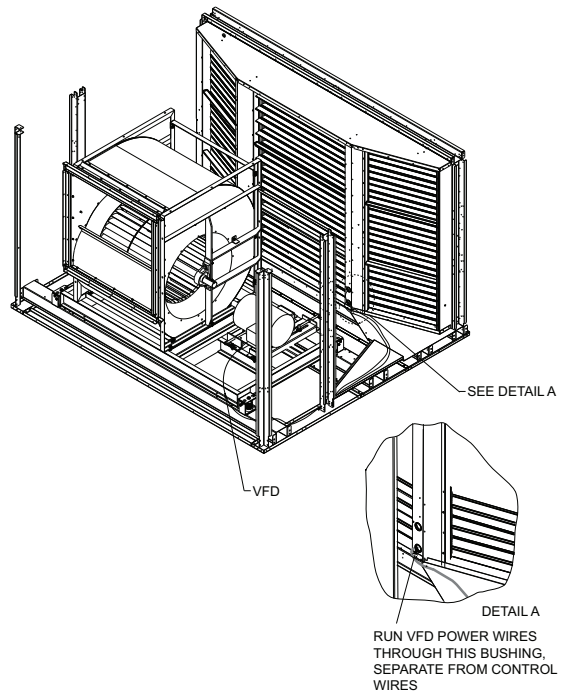
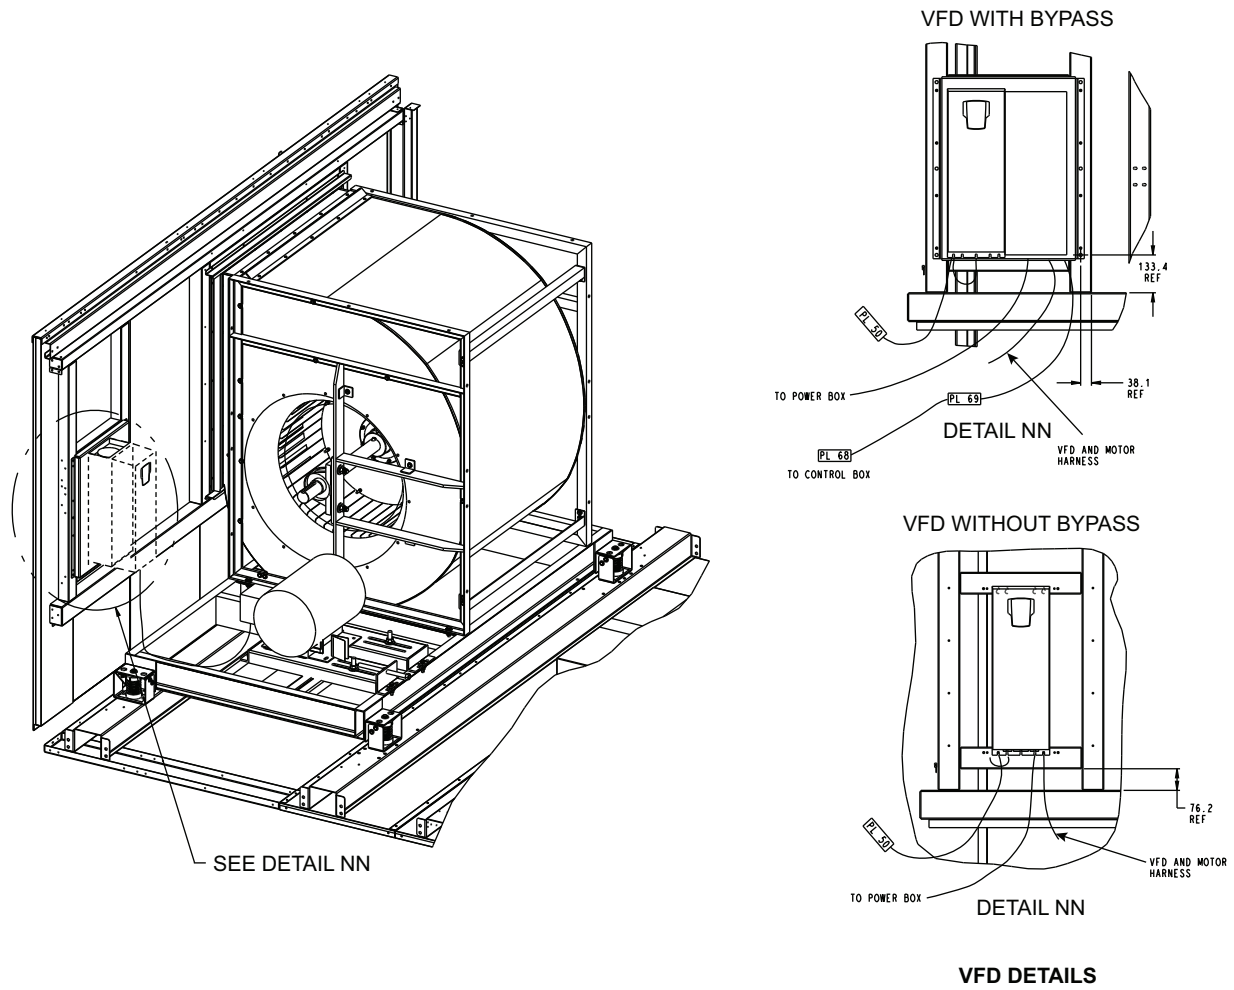

Fig. 46 — Wire Routing
Fig. 47 — Return Section Component Locations
15. On units equipped with return air fan or power exhaust fan option, locate black, yellow, and blue power wires located at the split in main section. Run the wires through the grommet below the return air filters and through the grommet at the economizer damper. See Fig. 46. Run wires through wire trays, separate from control wires, to the return fan/power exhaust fan VFD on back wall of return section. Connect wires to VFD power terminal connections: Black to UL1, Yellow to V1, and Blue to W1. On units equipped with VFD bypass option connect the wires to the power distribution in the VFD bypass box: Black to L1, Yellow to L2, and Blue to L3. See Fig. 47.